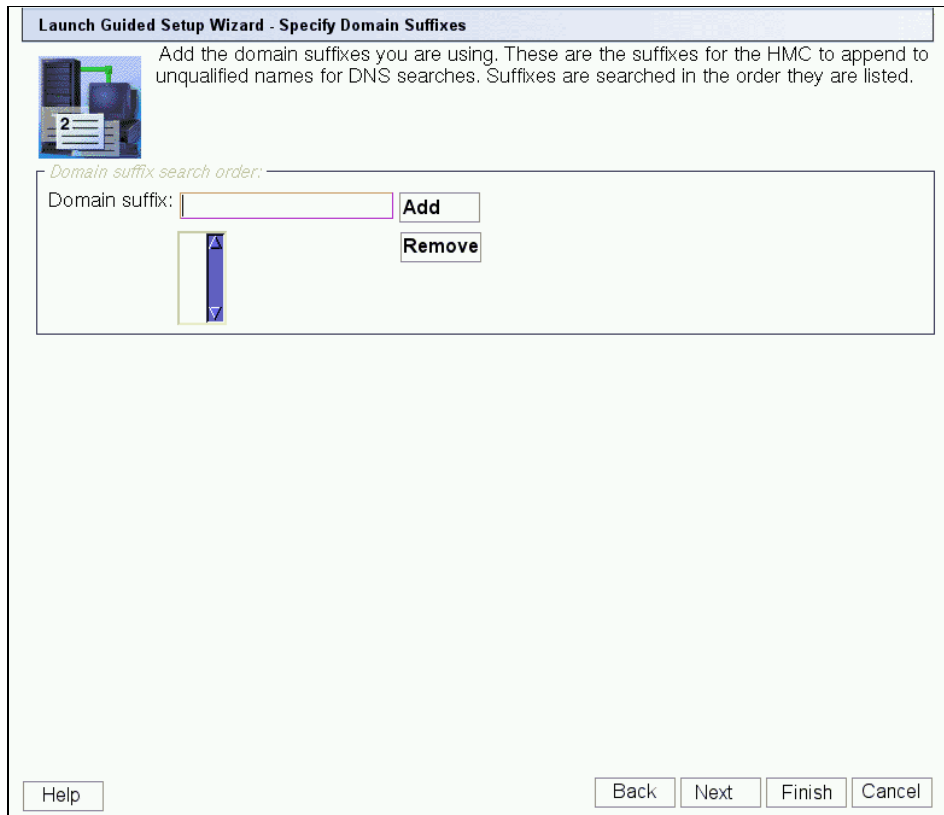

Figure 3-31 Launch Guided Setup Wizard - Configure Domain Suffix
24. The Launch Guided Setup Wizard - Configure Domain Suffix panel is shown in Figure 3-31.